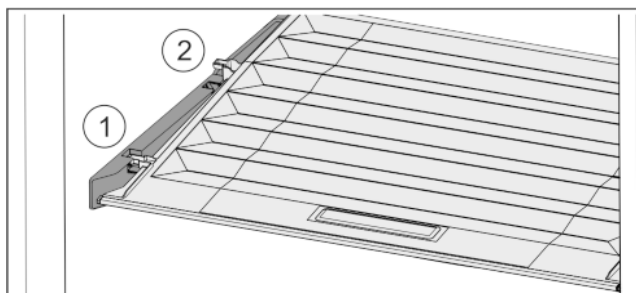

Fig. 28
- ▶ Pull the lid up at the front to the opening in the retaining parts Fig. 28 (1).
- ▶ Lift from the back and pull it up and out Fig. 28 (2).